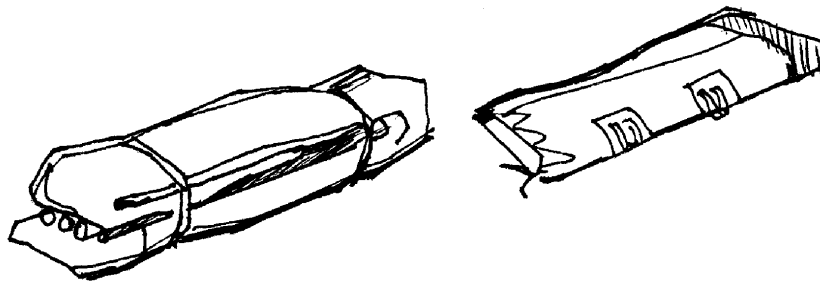

Fig.50
4.3.22. Fold the bag with the sail so that it will cover the tubes from the top. Fold the free end of the bag inside. Tighten the package with the tapes (Fig.50).